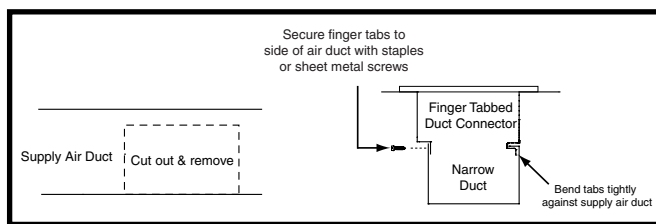

Figure 13. Narrow Air Ducts - Option 1
1. Cut and remove the top of the supply air duct as shown in Figure 13.
3. Bend the tabs on the bottom of the duct connector upwards and as tight as possible against the supply air duct (Figure 13).